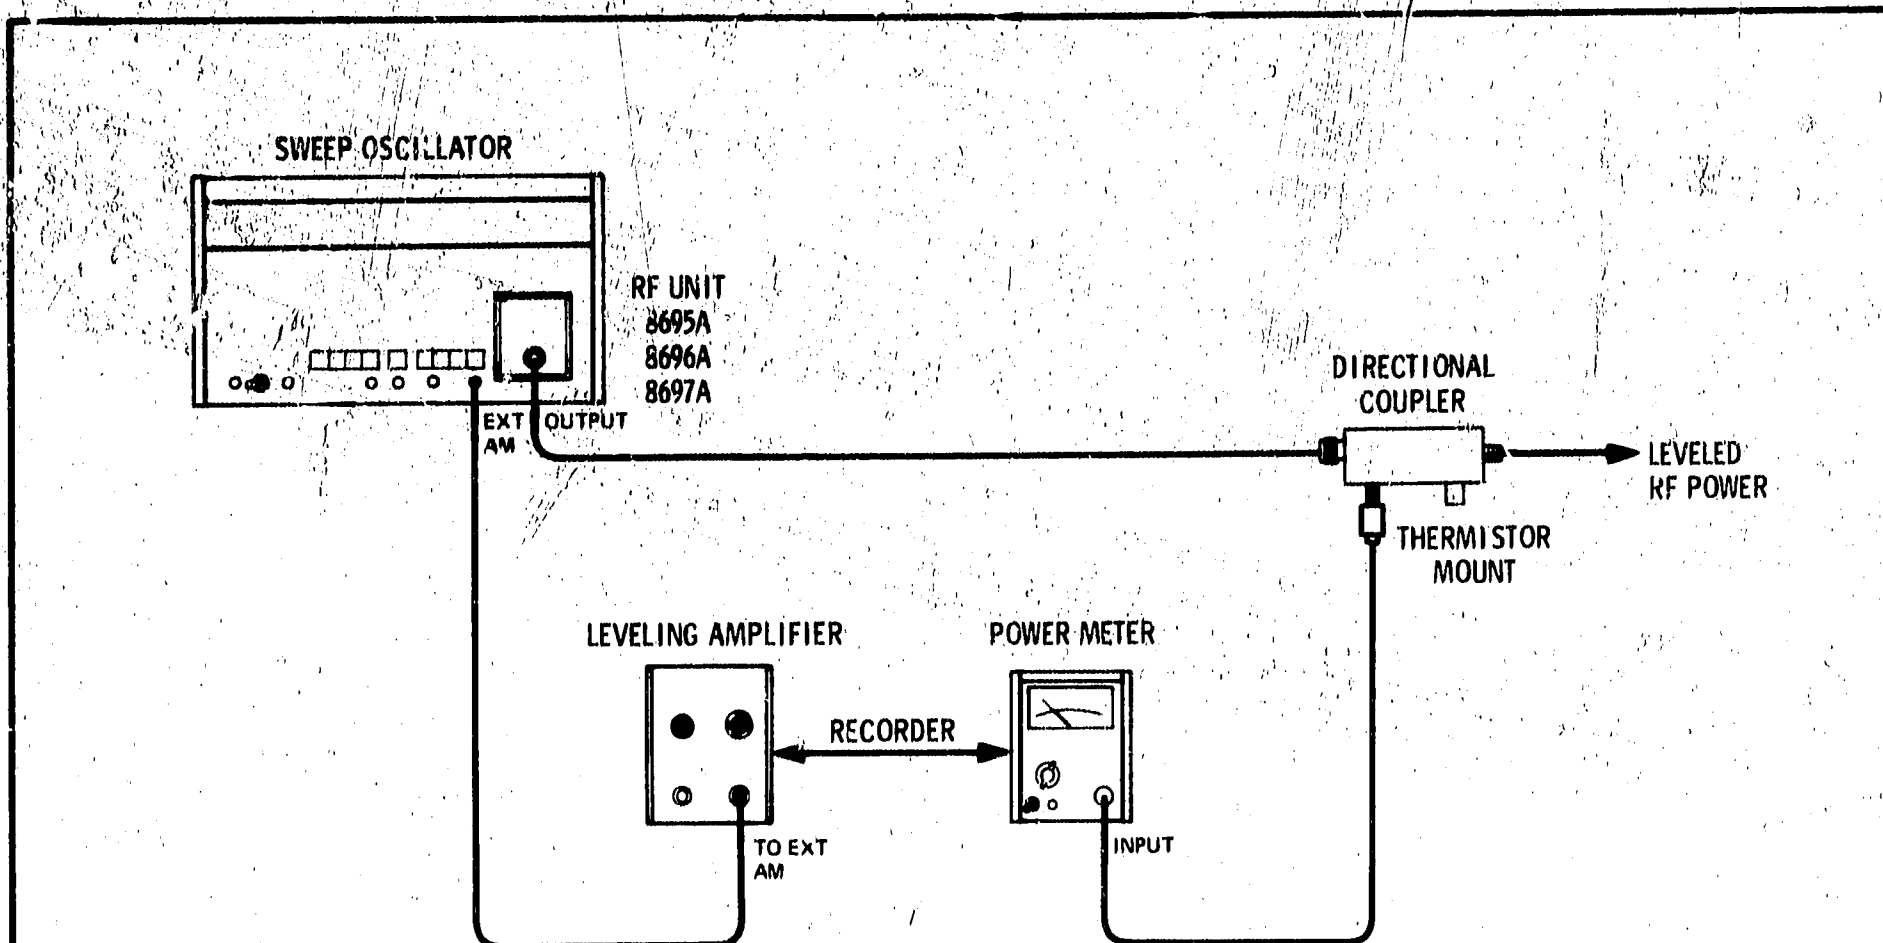

Figure 2-1. Adjustment Setup Number 1
- (1) Connect equipment as in Figure 2-1. Omit connection to Power Meter Level Input. Set Sweep Oscillator for CW operation, and POWER LEVEL for maximum output.
- (2) While measuring current in BWO tube cathode and helix leads, tune RF output to frequency in lower half of RF tuning range at which RF output is minimum. If RF output is below specifications, adjust A1R40 (ANODE SHAPE ADJ) for proper RF output without exceeding maximum cathode and helix currents specified in Table 2-2.
- c. Connect equipment as shown in Figure 2-1, according to RF Unit used.